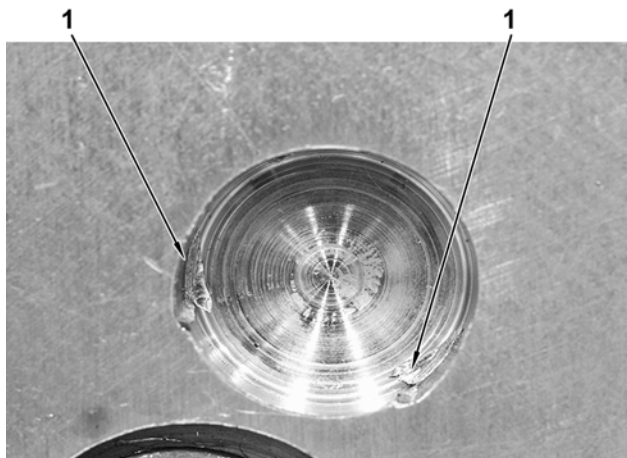
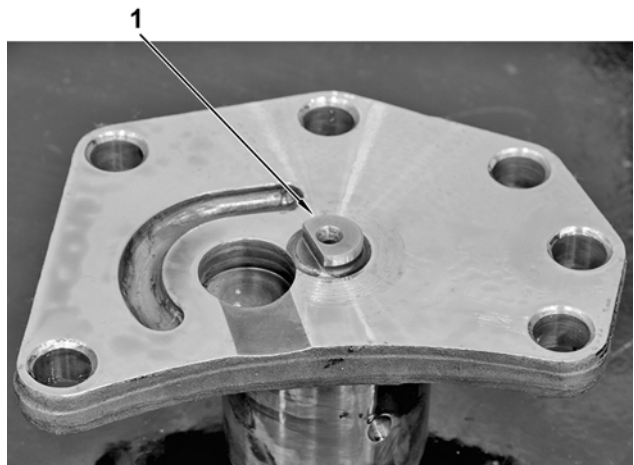

Figure 12 Fixed Idler Pilot Hole
Figure 13 Fixed Idler Pilot
17. Damage will be evidenced by metal distorted or sheared around the edge of the hole, resulting in an enlarged and out-of-round condition and loss of exact position control for the pilot (Figure 12, Item 1 and Figure 13, Item 1).